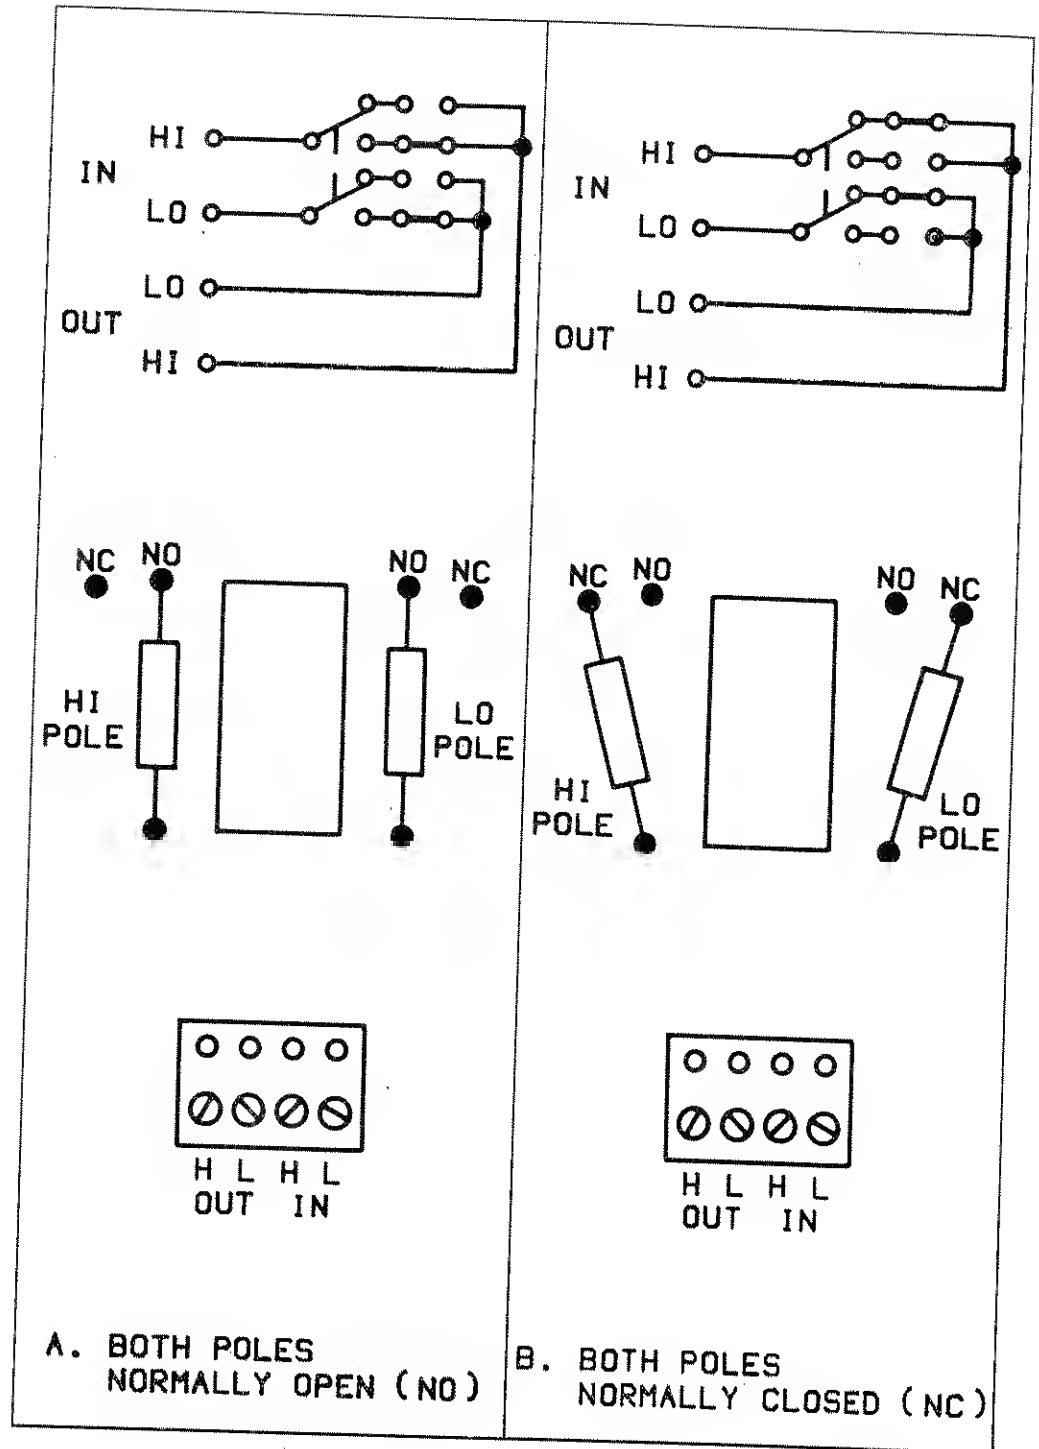

Figure 2-1. Jumper Positions for NO and NC Operation
At the factory, both poles of each relay are configured for normally open (NO) operation. That is, the circuit is not closed until the relay is energized. The positions of the jumpers for NO operation are shown in Figure 2-1(A).
A pole of any relay channel can be configured to be normally closed (NC) by moving the jumper to the alternate position. In the NC configuration, the circuit is broken when the relay is energized. Figure 2-1(B) shows the position of the jumpers for configuring both poles of a relay for NC operation.